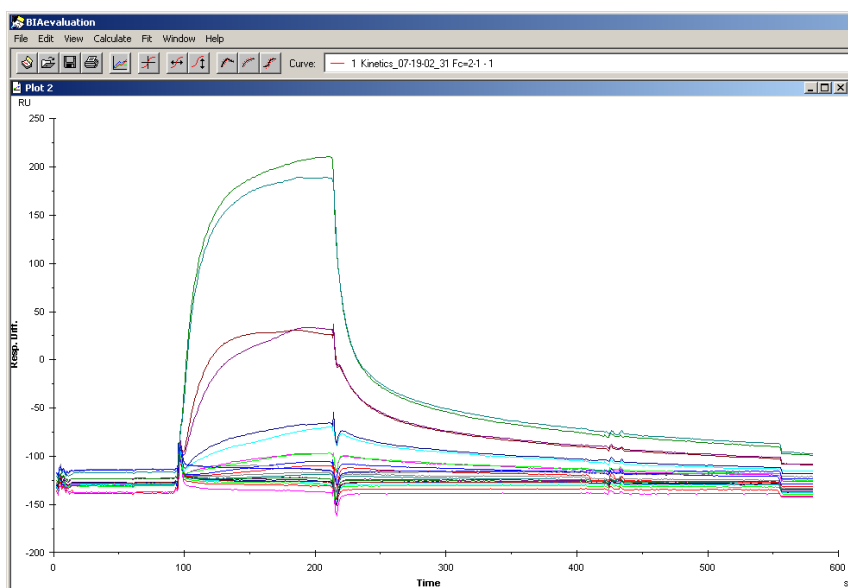

Figure 6.5
- 6.13 The resulting sensorgrams are shown in Fig 6.5